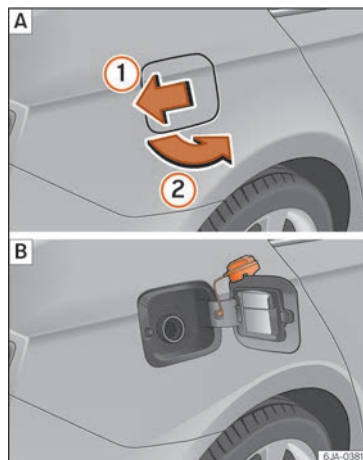

Fig. 241 Rear part of the vehicle, right side: tank lid/tank lid with unscrewed cap.
The correct type of fuel for your vehicle is indicated on a sticker on the inside of the fuel tank flap, along with the tyre size and pressure » **Fig. 241 B**.
- Press the flap in the direction of the arrow **1** » **Fig. 241**.
- Unscrew the tank cap anti-clockwise and place it on top of the tank flap » **Fig. 241 B**.
»» Fig. 241.
- Open the cover in the direction indicated by the arrow ②.
- Unscrew the tank cap anti-clockwise and place it on top of the tank flap »» Fig. 241 B.